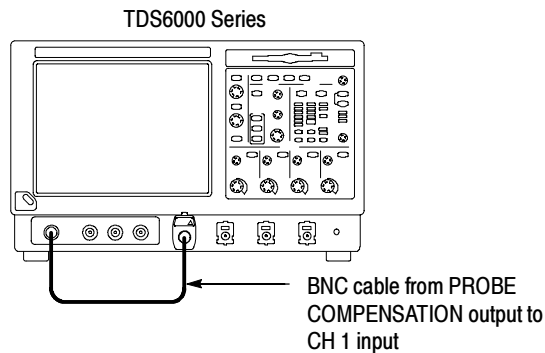

Figure 4-30: Initial test hookup
- Connect one of the 50 Ω cables to **CH 1** through an adapter. See Figure 4-30.
- Connect the other end of the cable just installed to the **PROBE COMPENSATION** output. See Figure 4-30.